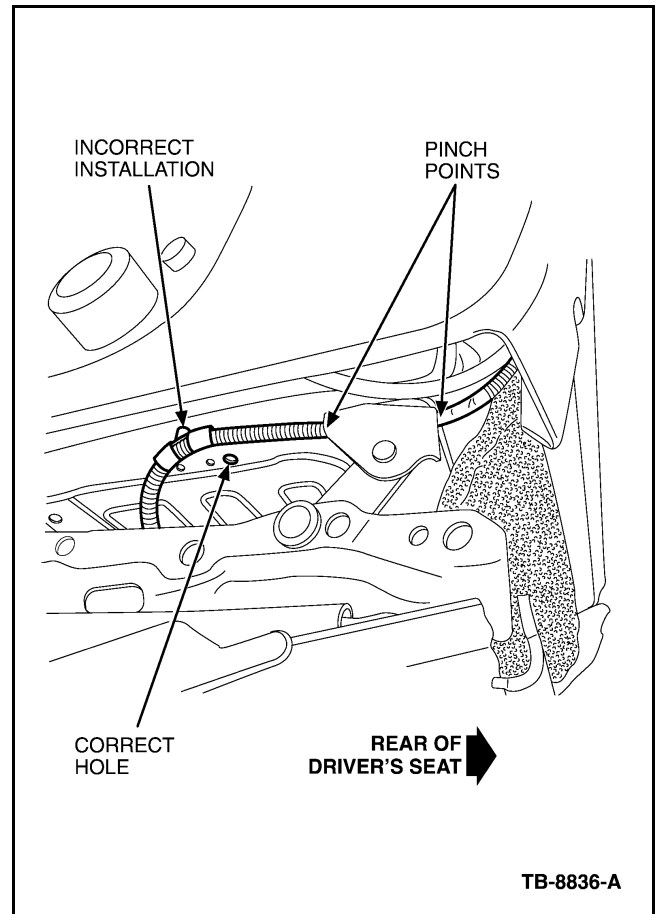

Figure 1 - Article 07-10-3
1. Place seat up-side-down on a clean surface and inspect the side airbag wire harness for indications of chafing, pinching and incorrect wire harness routing. (Figures 1 and 2)